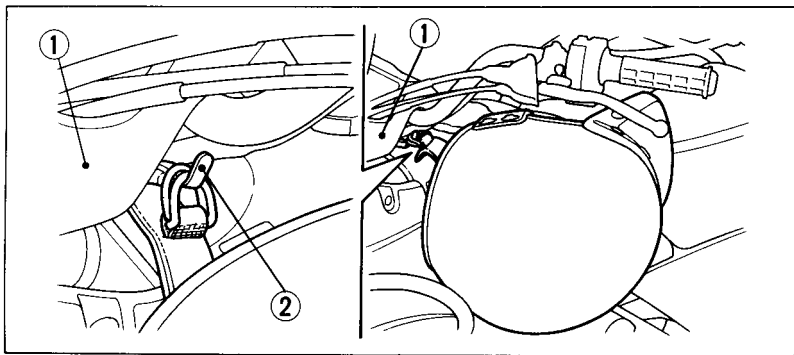

Fig. 2-25
The helmet holder (Fig. 2-25) is a bracket near the left side of the handlebar cover (1). To use the holder, hang the D-ring on your helmet strap over the bracket. Use the helmet holder only when the TRX300 is parked.